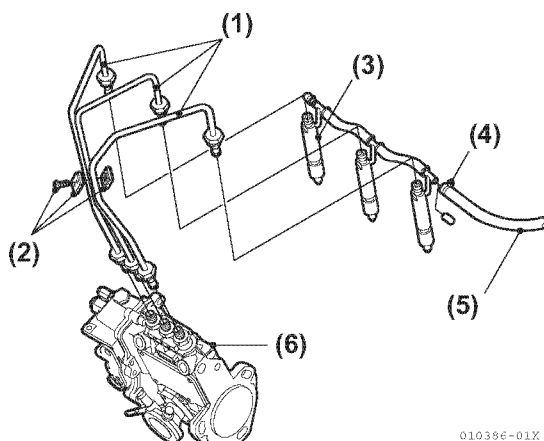

Figure 6-8
2. Disconnect the hose from the fuel return line (Figure 6-8, (5)).